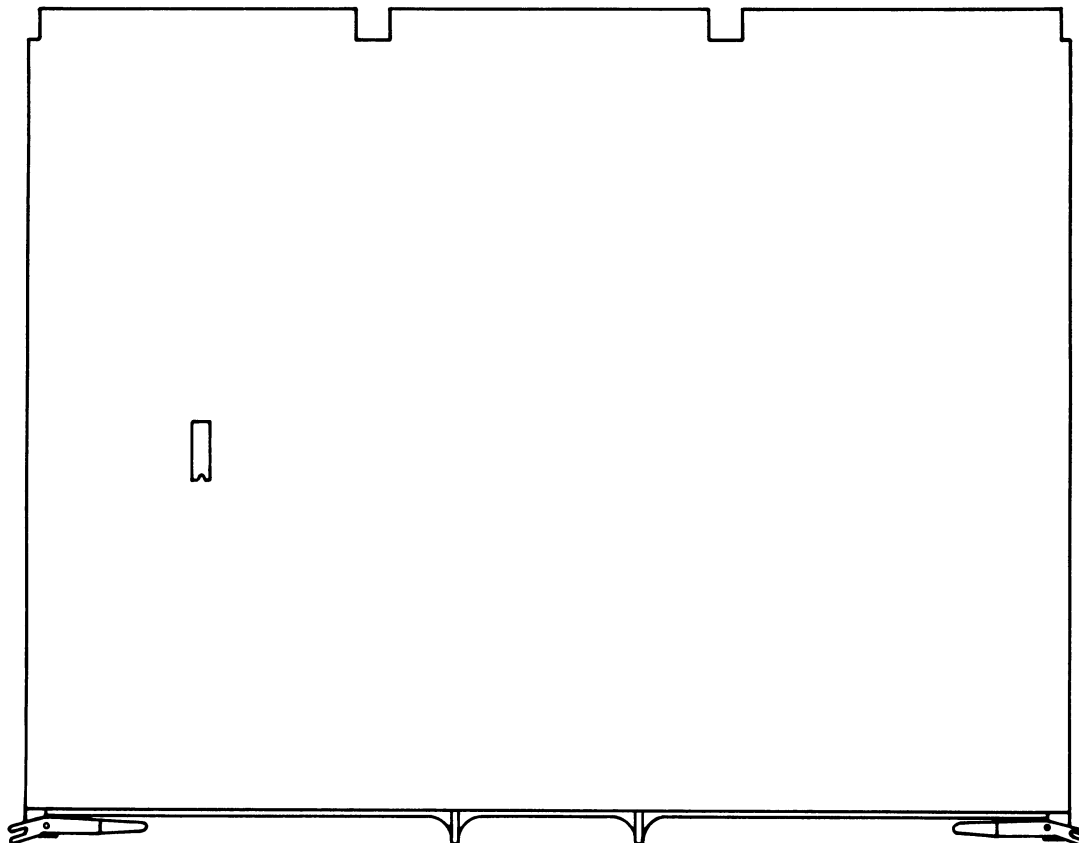

Figure 4-8. Bus Interface PCBA, Component Locations
Each MBA installed in the V-MASTER is a nexus; therefore, each SC7000 Disk Controller is a nexus. Each nexus on the SBI is assigned a transfer request (TR) number which is both the arbitration level and the SBI address of the device. MBA nexuses are generally assigned TR numbers ranging from TR8 through TR11 (the first DEC MBA is usually assigned to TR8). The TR number and the Interrupt Request level for each SC7000 Disk Controller that can be installed in the V-MASTER are selected by setting DIP switches SW1-1 through SW1-6 on the Bus Interface PCBA (P/N SU7810401) as listed in Tables 4-8 and 4-9. DIP switch SW1 is shown in Figure 4-8.